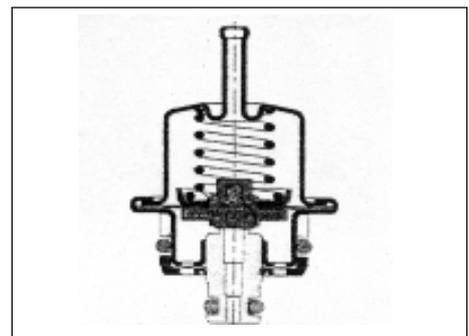

Figure 3-3
#### 3. The fuel oil pressure regulator (DR) (see Figure 3-3).